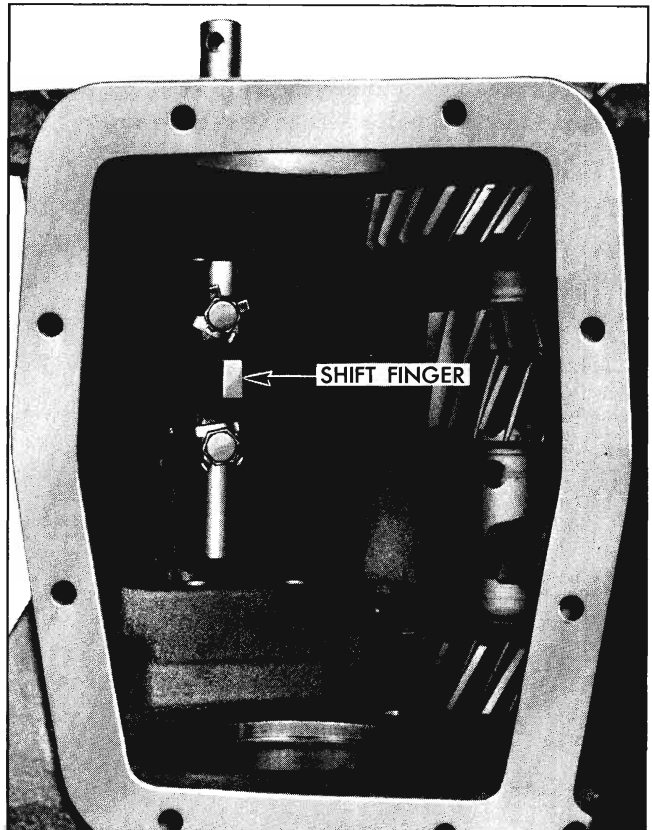

Fig. 7-32 Transmission Shift Finger
14. Remove two cap screws and lock tabs securing shift finger (Fig. 7-32) to manual shift shaft and pull shaft from case.